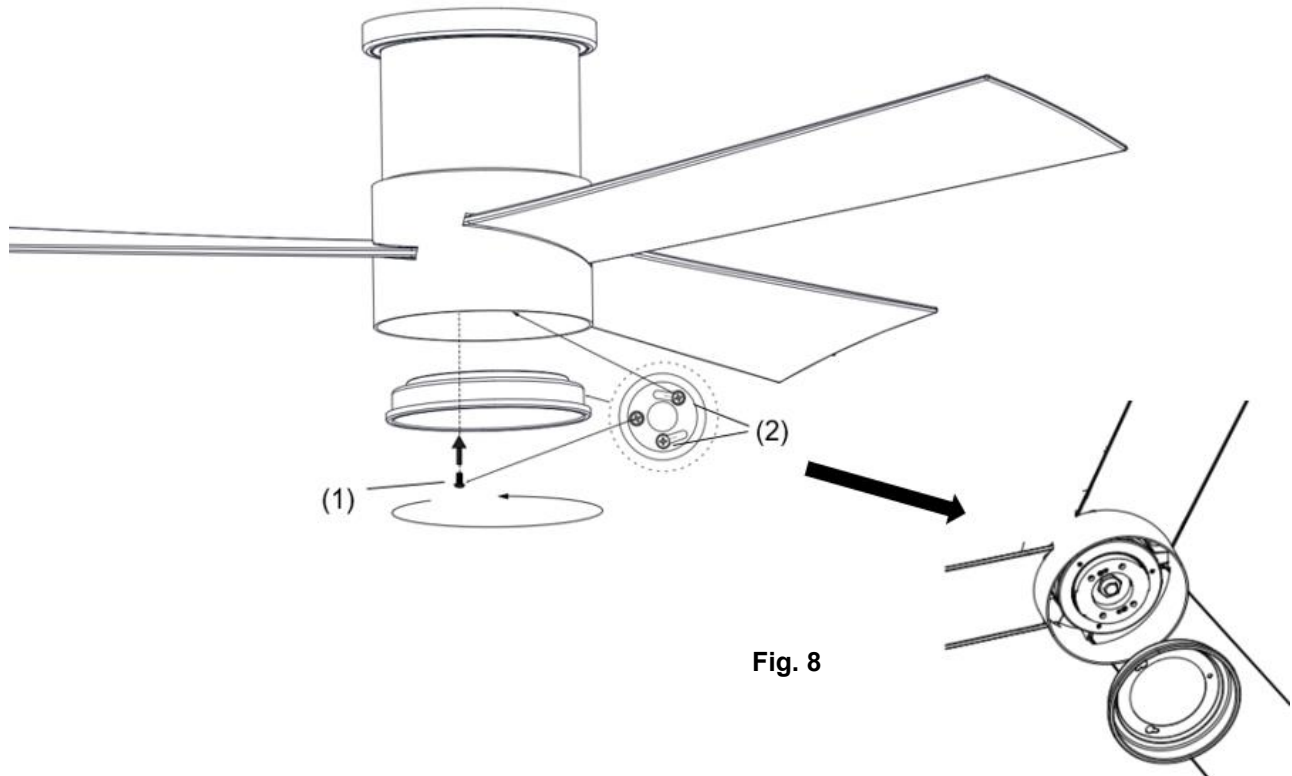

Fig. 8
1. Loosen the screw (1) from the fan bracket. (Fig. 8)
2. Align the two slot screws with the keyhole slots (2) of the light kit plate. (Fig. 8)
3. Turn the light kit plate counterclockwise until the slot screws are firmly at the end of the slots (2).
4. Secure the screw (1) to the light kit plate. Tighten all three screws. Do not over-tighten.